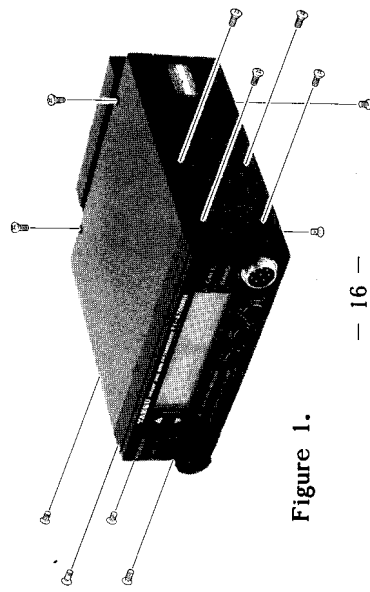

Figure 1.
(1) Using the mounting bracket as a template, locate the mounting holes after determining the mounting location with sufficient clearance for the transceiver, and space for ventilation around the heatsink. Use a 4.8mm (3/16") bit to drill the holes. Secure the bracket with the supplied screws, washers and nuts (Fig. 1).
- (1) Disconnect the DC power cable, and referring to Figure 1, remove the six screws affixing the top cover (to install the 2m FTS-8) and/or the bottom cover (to install the 70cm FTS-8). Be careful not to strain the speaker wires if installing the 70cm FTS-8.